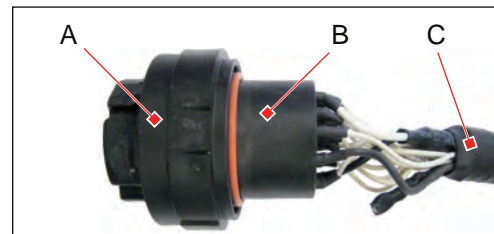

Fig. 14: Replacement insert (A) with crimp adapter (B) and connector cable (C)
- ▶ Pull the replacement insert (A) with crimp adapter (B) and connector cable (C) out of the interior of the vehicle through the mounting hole in the vehicle wall so that the replacement insert (A) and the crimp adapter (B) are exposed (Fig. 14).